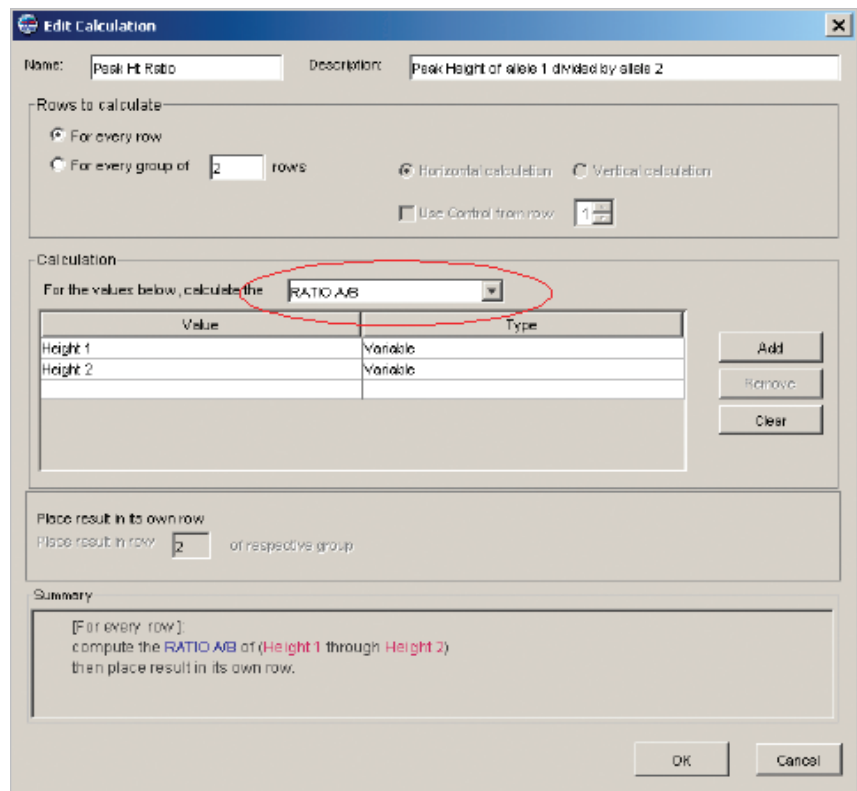

Figure 7. The Calculations option lets you specify custom calculations, such as ratios, averages, and sums.
Step 1 Calculate the peak height ratio for the two alleles for both normal and tumor sample in the Report Manager (Figure 7) using the following formula:
Described in Figure 6 is a step-by-step procedure (Figure 7, 8, and 9) for using the Report Manager to specify customized multi-step, peak-height calculations that can be used to perform relative fluorescent quantitation and generate reports as shown in Figure 4. It should be noted that these calculations need to be specified only once, as they can be saved and applied automatically to data generated in subsequent assays.